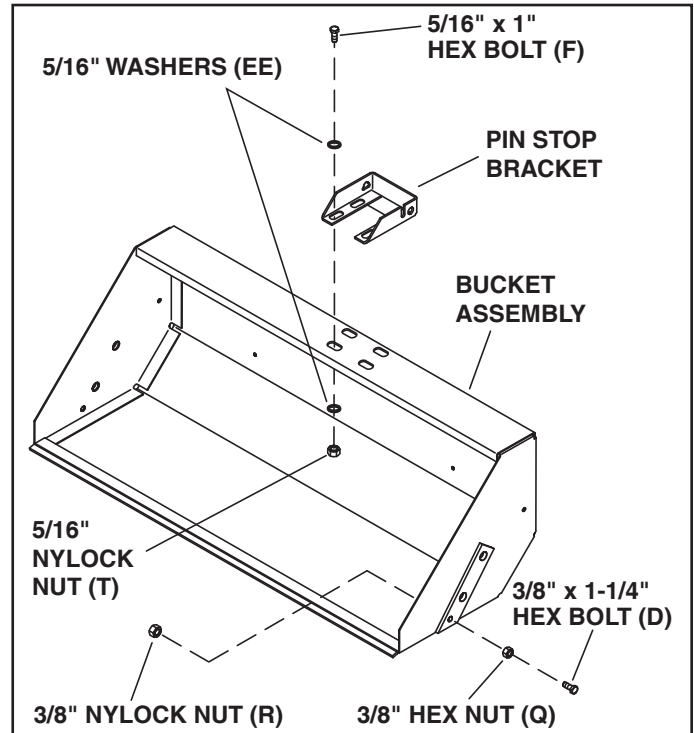

FIGURE 1
STEP 1: INSTALL TWO BOLTS (SEE FIGURE 1)
- Assemble two 3/8" x 1-1/4" hex bolts (D) and 3/8" hex nuts (Q), threading the nut all the way onto the bolt until it is tight against the head of the bolt.
- Install a nut/bolt assembly into the bucket assembly and fasten using a 3/8" nylock nut (R). **Tighten.** Repeat for the other side.
STEP 2: INSTALL PIN STOP BRACKET (SEE FIGURE 1)
- Install the pin stop bracket to the top of the bucket assembly using four 5/16" x 1" hex bolts (F), eight 5/16" washers (EE) and four 5/16" nylock nuts (T). Leave the bolts loose enough that the position of the pin stop bracket can be adjusted later.